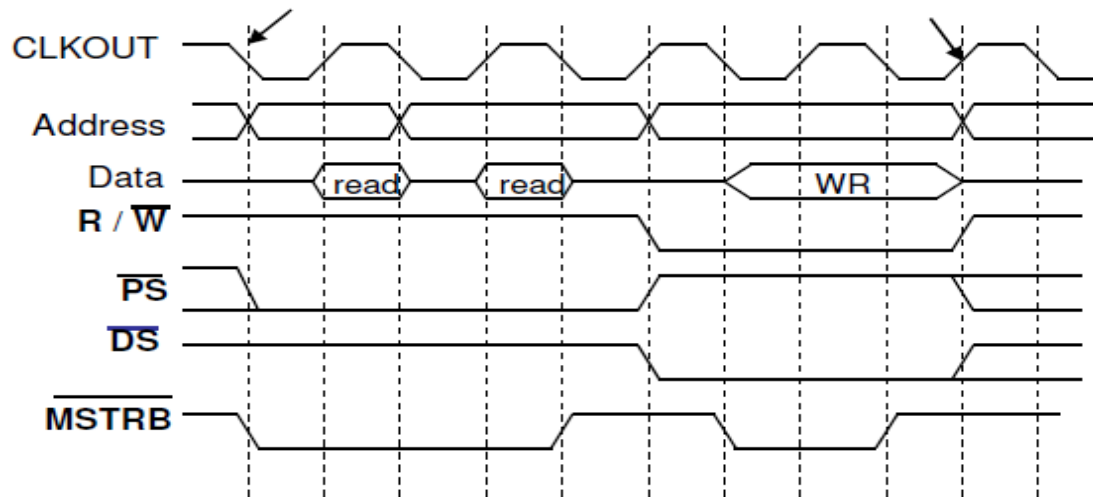

Fig. 7.5 Timing Sequence for External Memory Access
- The timing sequence of memory access is shown in fig. 7.5. There are two read operations, both referring to program memory. Read Signal is high and Program Memory Select is low.